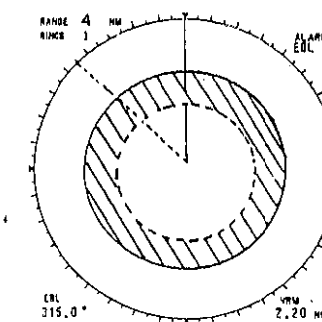

Fig.1-15
7. By observing the EBL indicator at the lower left-hand side of the screen, press the  /  touchpad until the EBL is positioned at 315°. See Fig.1-15.